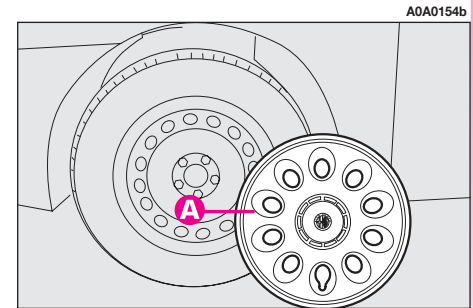

fig. 4
- Remove the wheel cap **(A-fig. 4)** (only versions with steel rims)